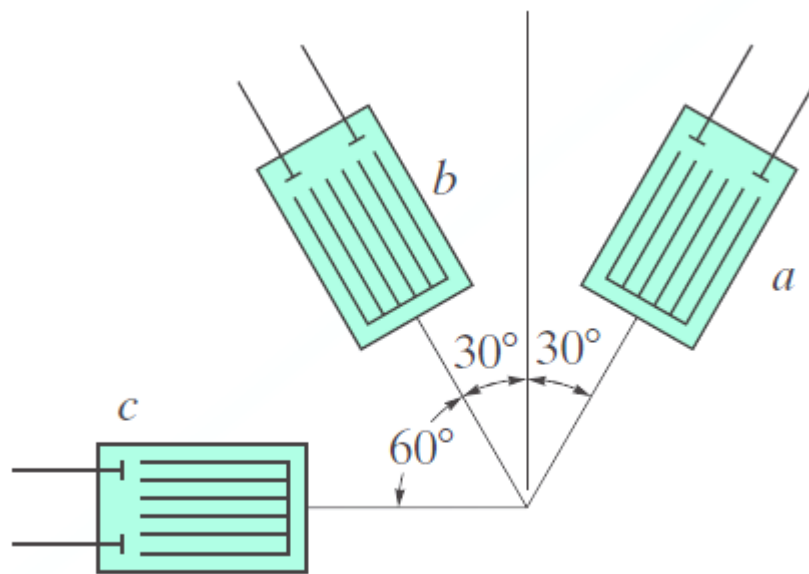

Fig. 4.4
- 4.4 The strain rosette of configuration shown in Fig. 4.4 is mounted on a beam. The following readings are obtained for each gauge: